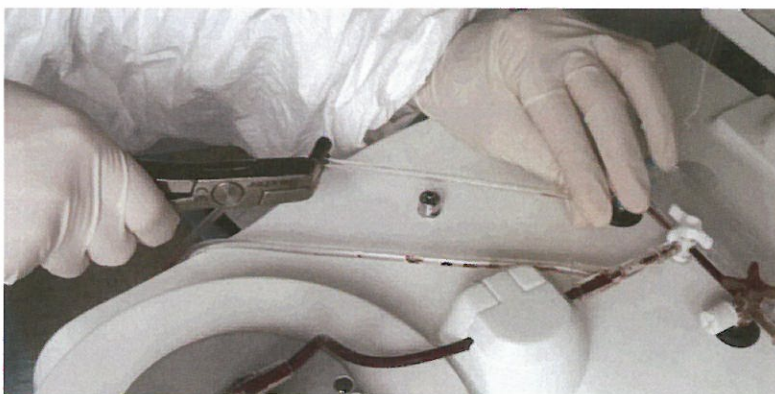

Fig. 7
- 8.13.2 The message “Strip BC line” appears on the display. Strip the BC line as shown in Fig. 7 and press . Always hold the line with one hand while stripping.